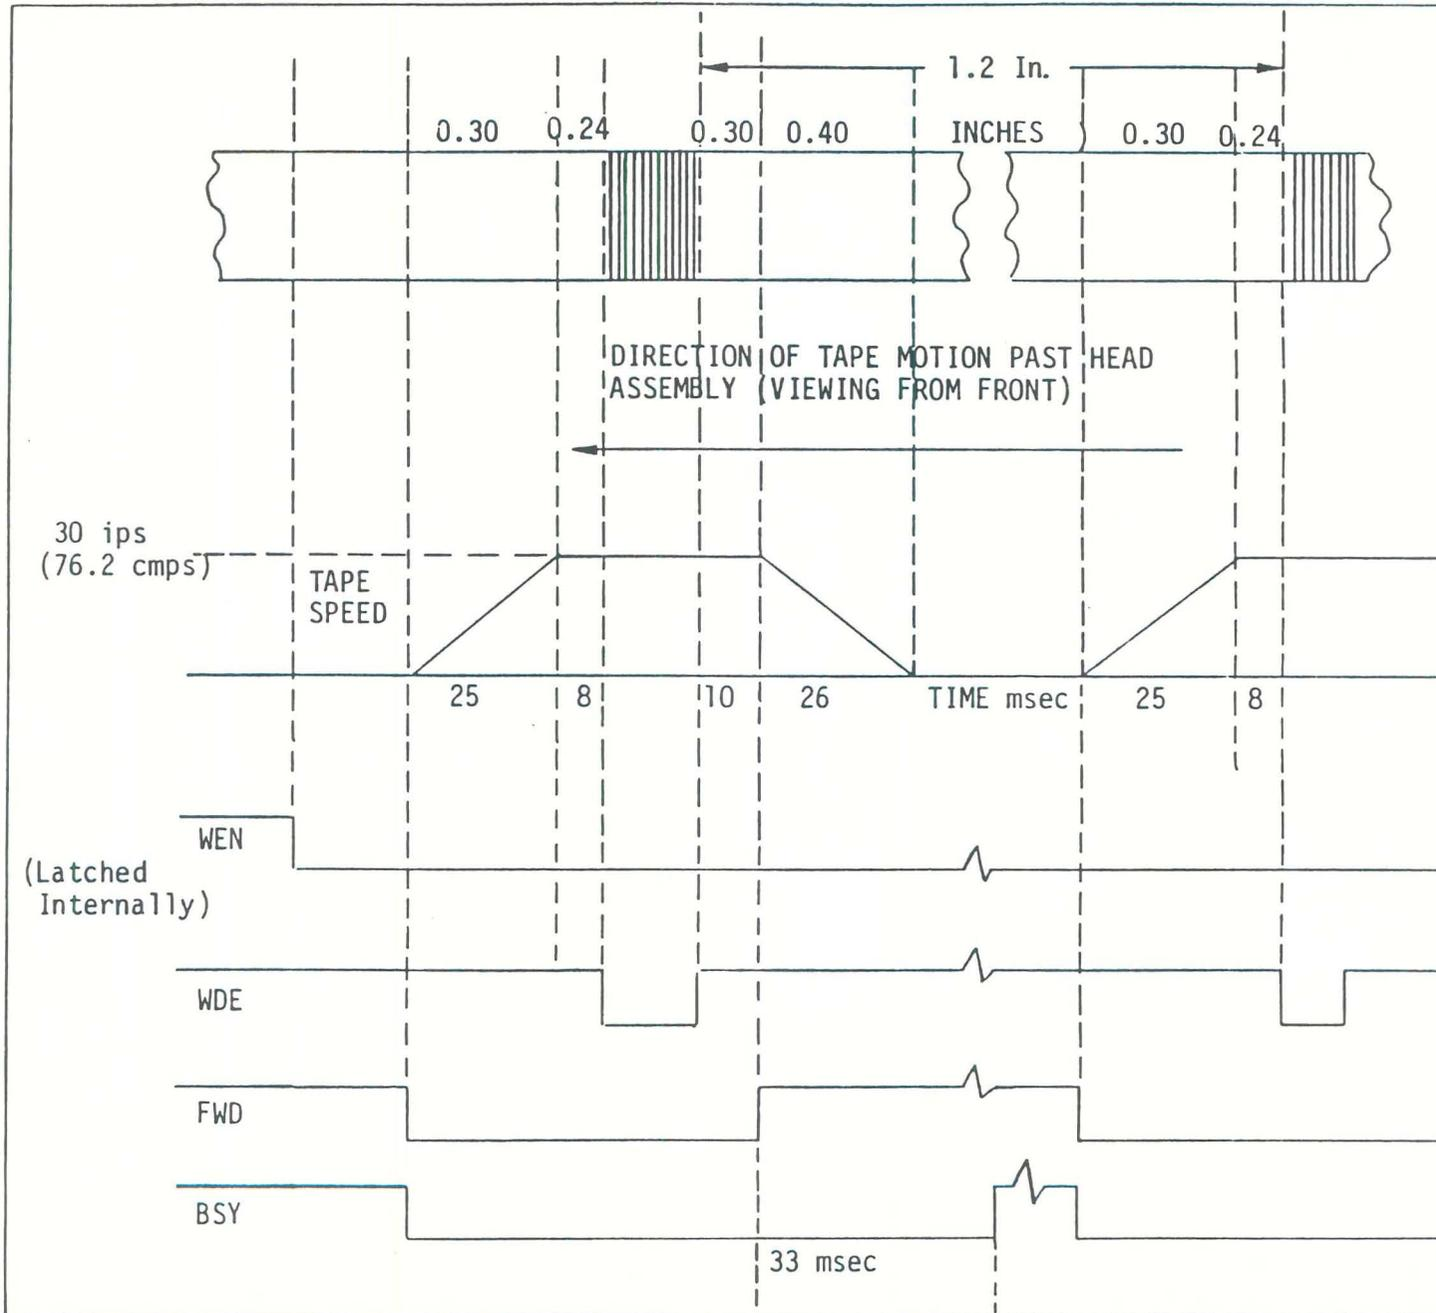

Figure 3-5. Time and Tape Budget for Forward Stop and Start Modes
3.5.2 Forward Stop Mode (Figure 3-5)
3.5.3 Forward Start Mode (See Figure 3-5)